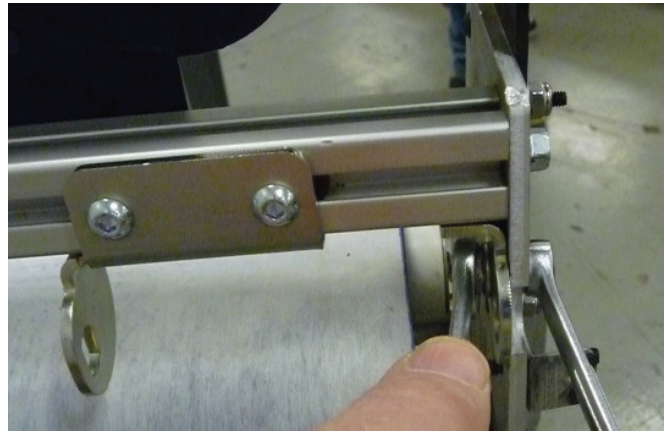

Figure 15
15. Reattach the original bracket side frame bolt as shown. Refer to *Figure 15*.